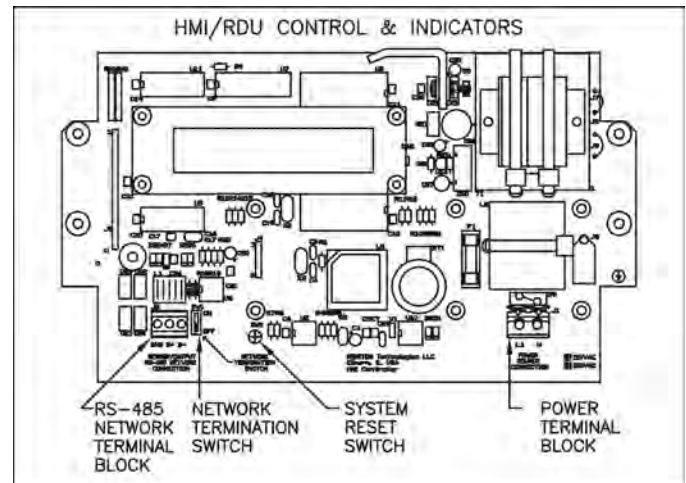

Figure 3
3.1 HMI/RDU Network Termination Switch (See Figure 3)
3.2 HMI/RDU System Reset Switch (See Figure 3)